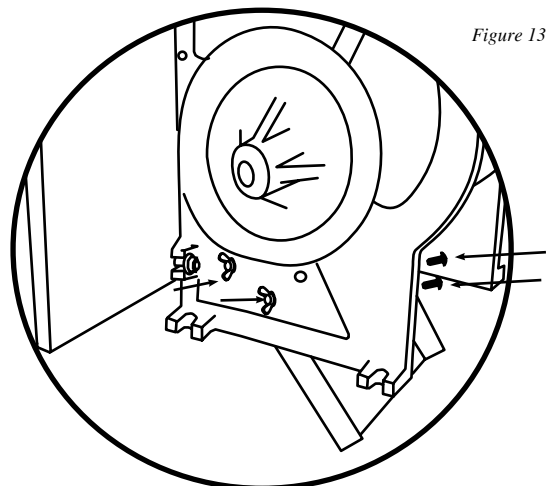

Figure 13
7. Line up Holes 1 & 2 of the **Chute** to Holes 1 & 2 of the **Apple Crusher Main Body** using **Machine Screws** and **Wing Nuts**. Repeat on the other side of the **Chute**. Tighten the **Wing Nuts** by hand (Figure 13).